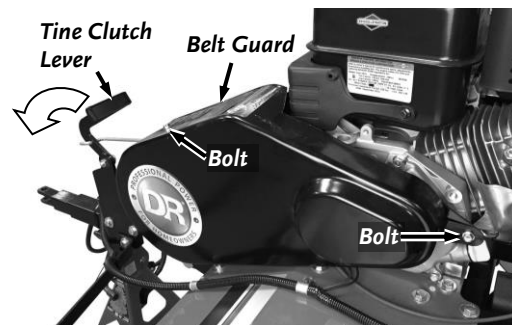

Figure 24
1. Remove the two Bolts from the top and rear of the Belt Guard using a 3/8" Socket and remove the Belt Guard (**Figure 24**).